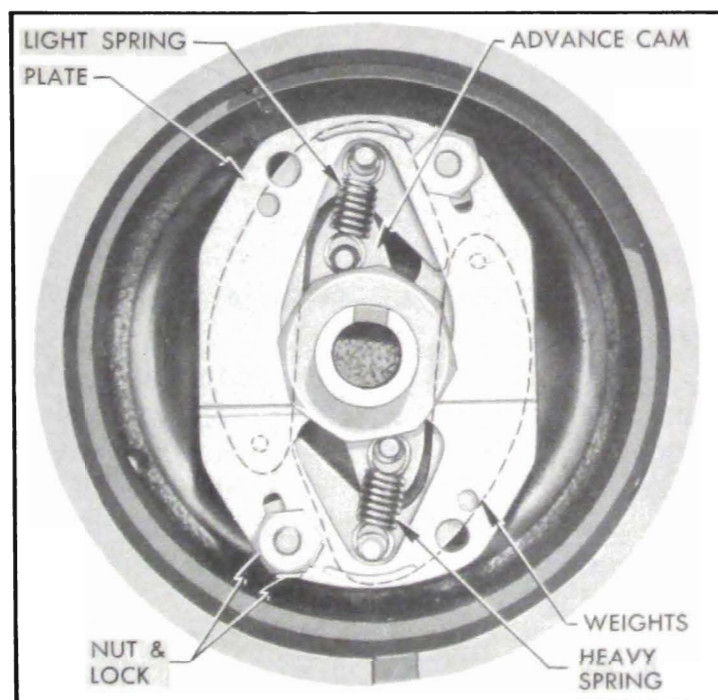

Figure 10-87—1949 Model Distributor with Breaker Plate Removed
4. Remove the advance weight springs, cam and advance weights. On *1949 Model* distributor, the cam and weights are retained by a plate which must be removed. See figure 10-87.
On 1949 Model distributor, place plate over weights with ridged side down against weights. Install locks and nuts and bend tongue of locks up against nuts. See figure 10-87.